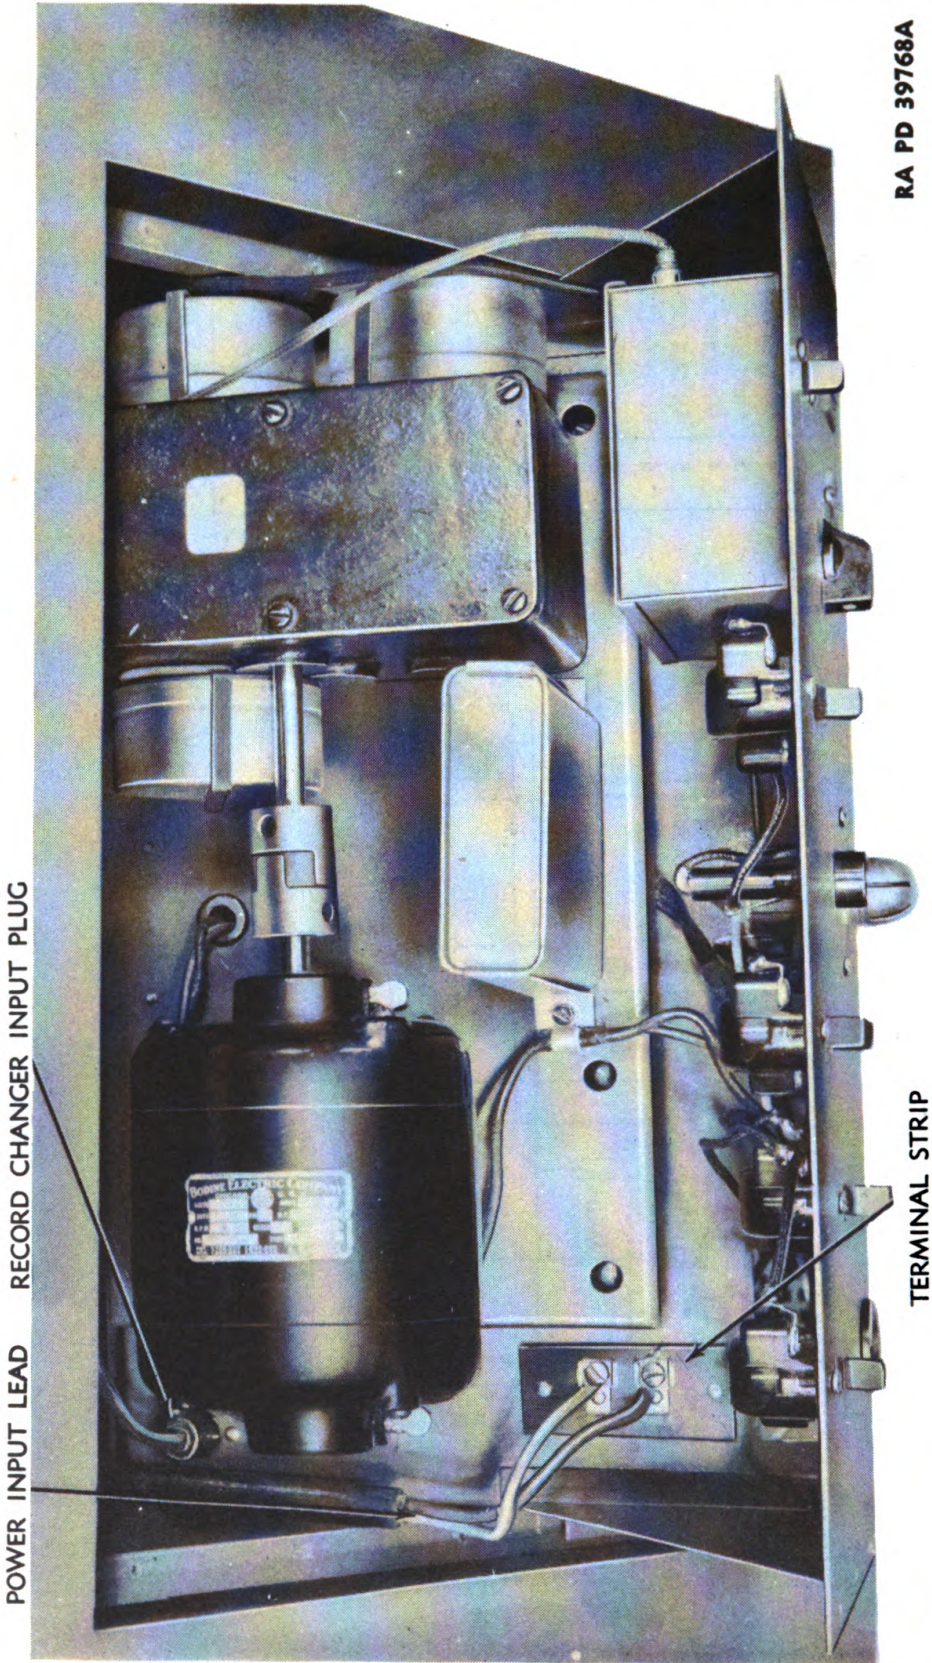
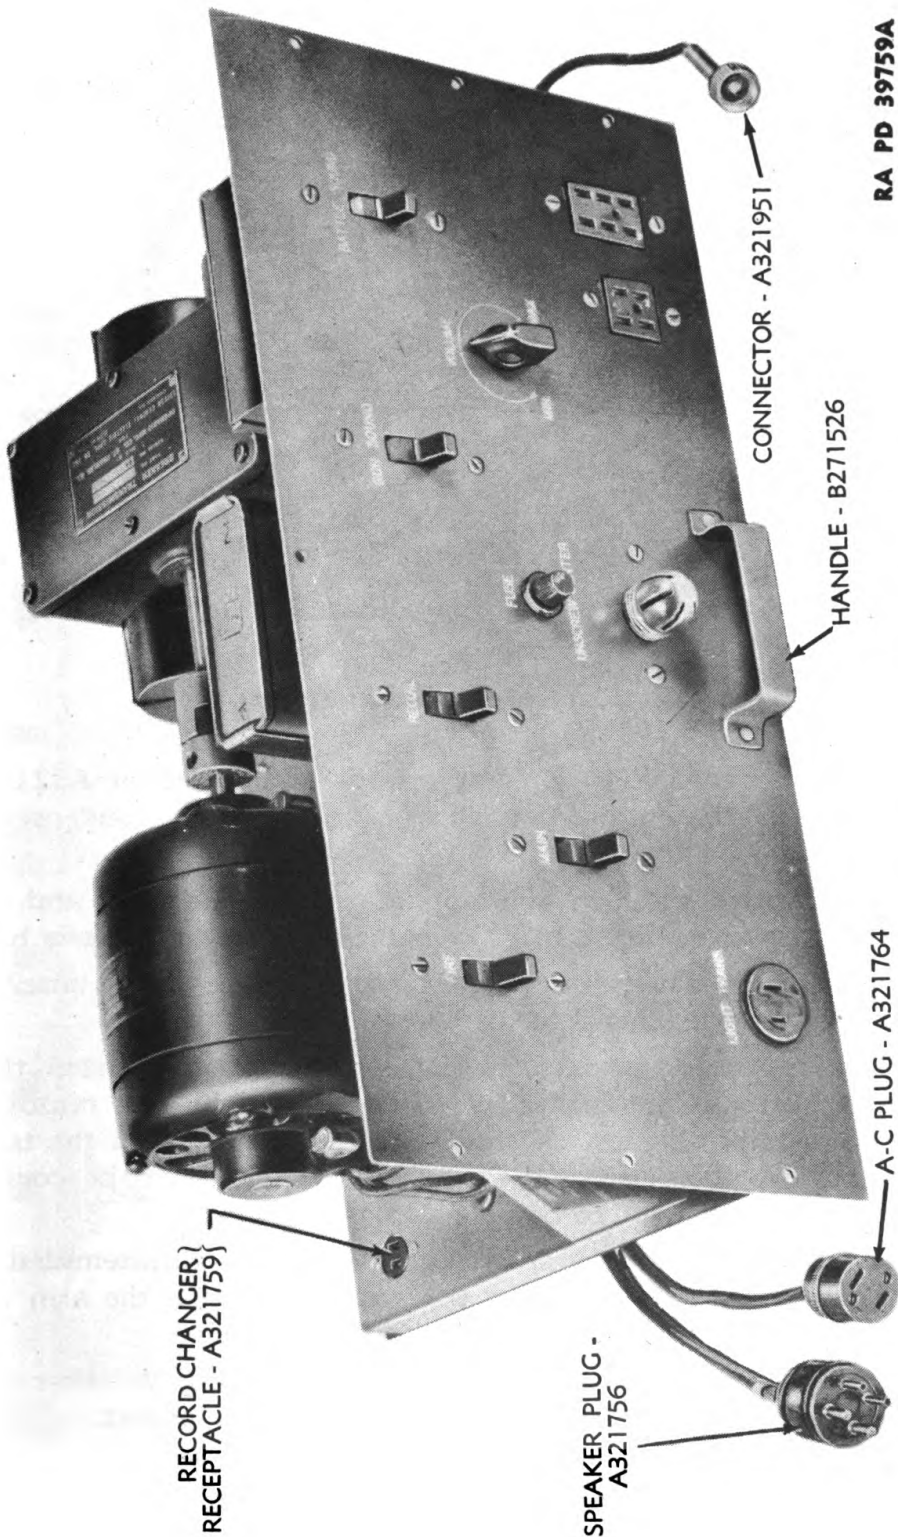

Figure 30 — Sound Equipment Control Panel and Timer — Partly Removed
Figure 31 — Control Panel and Timer — Front
(3) Remove the seven wood screws holding the sound control panel in the sound cabinet.
(4) Pull the control panel forward until the power input lead terminals (fig. 30) are exposed. Unscrew the terminal screws and remove the power input lead.
(5) Pull the record changer power input plug and the shield tone arm lead plug from their respective receptacles.
(6) Remove the control panel (fig. 31), together with the timer, from the sound cabinet by pulling the entire unit forward.